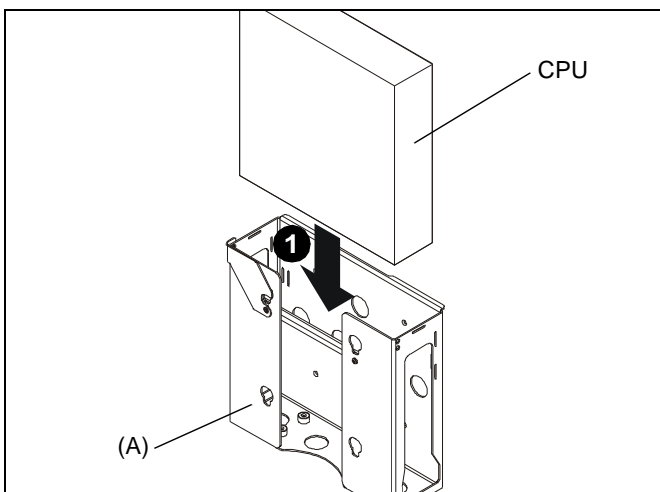

Figure 2
1. Place CPU into CPU holder (A) ensuring connections on CPU are oriented with cable access opening in sides of CPU holder. (See Figure 2)